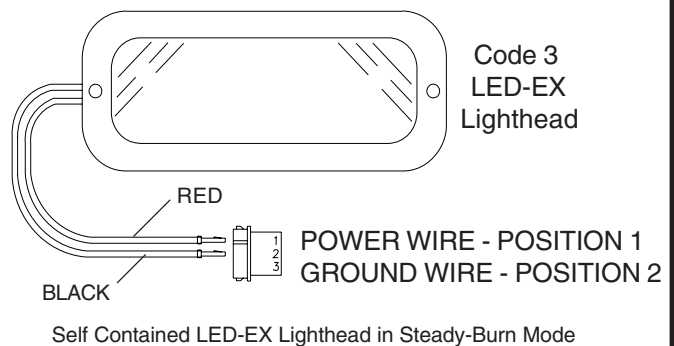

Figure4
- d) Insert pins into AMP connector # 1-480303-0 as shown in figure 4.